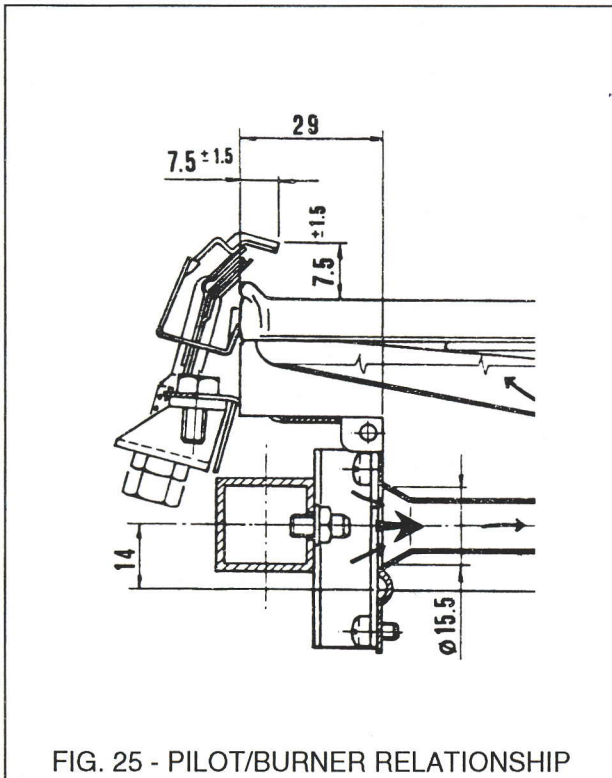

FIG. 25 - PILOT/BURNER RELATIONSHIP
- 3) Remove the old pilot burner and replace with the new one. Check that the critical dimensions are as shown in Fig. 25.